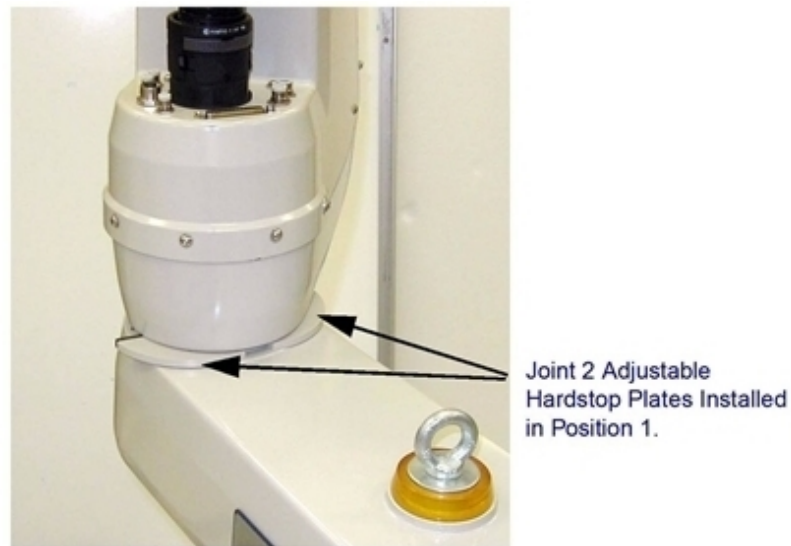

Figure 6-22. Joint 2 Adjustable Hardstop Locations
3. Slide the two adjustable hardstop plates around Joint 2, into the space between the inner and outer links—see Figure 6-22.